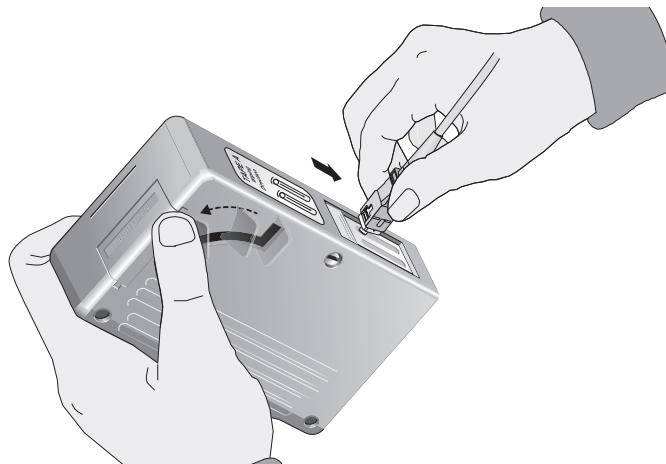

Figure 33. Rubbing the Ferrule Tip on the Cleaning Surface
1. With one hand, hold the cartridge cleaner and push the lever on the cleaning cartridge in the direction of the arrow to expose the cleaning surface, as shown in Figure 33.
2. Place the ferrule tip on the exposed cleaning surface and rub the ferrule in a downward direction, as shown in Figure 33.
1. Insert the swab into the adapter as shown in Figure 33 and rub the ferrule tip with the swab.